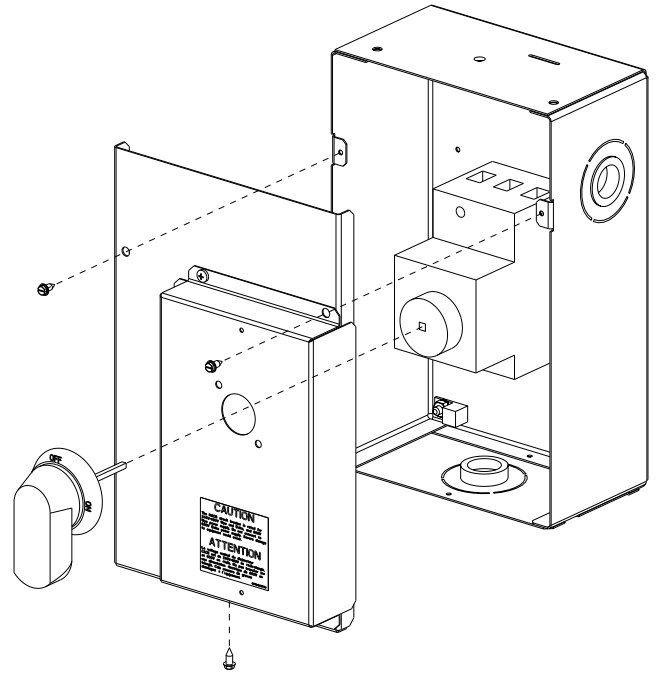

Fig. 43 — Handle and Shaft Assembly for HACR
2. Remove (3) hex screws on the HACR enclosure - (2) on the face of the cover and (1) on the bottom (see Fig. 43).
9. Secure the handle to the painted cover with (2) screws and lock washers supplied.
10. Engaging the shaft into the handle socket, re-install (3) hex screws on the HACR enclosure.